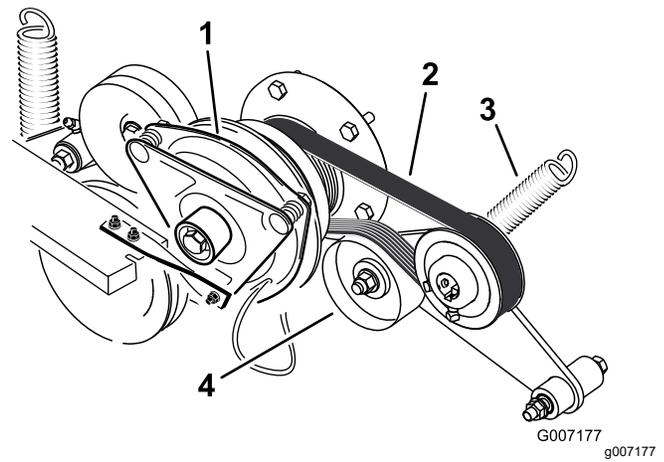

Figure 93
3. Remove the spring from the idler arm (Figure 93).
4. Install the new belt around the engine and hydraulic pump pulley (Figure 93).
6. Install the spring to the idler arm (Figure 93).